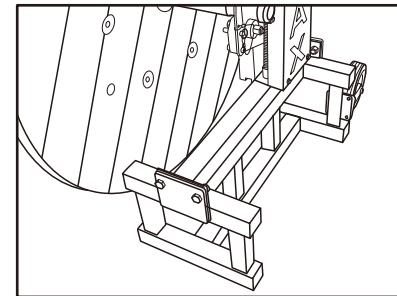

Fig. 5
- A pair of ProJax™ Risers (PJS-01) are available to extend the capabilities of the ProJax™ Reel Stands (Fig 5).